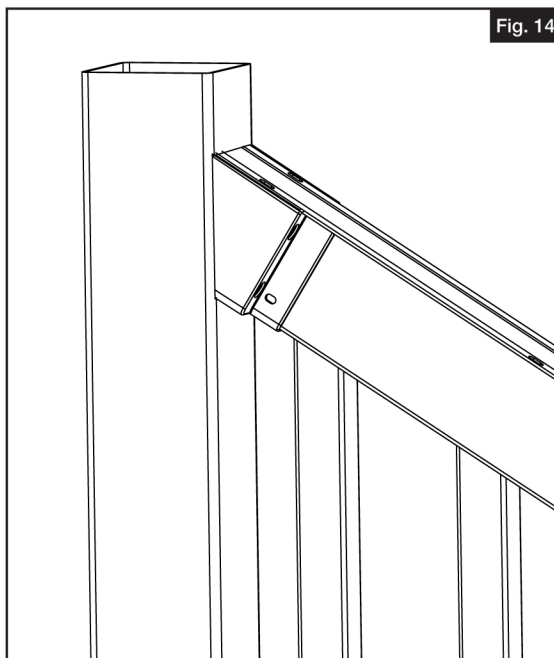

Fig. 14
- a. Slide handrail bracket over ends of railing (Fig. 14). Measure angle required and cut bracket and rail (and aluminum channel) to that angle.